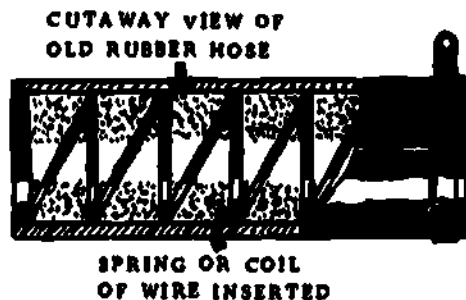

Fig 3-6. Cutaway view of hose.
c. Collapsed hose. When the lower hose becomes oil soaked and is subjected to engine heat, it gets soft and often collapses from the suction of the water pump. Overheating at high speeds results. Prevent the collapse by inserting a piece of heavy wire coiled to the same diameter size as the inside of the hose. Figure 3-6 shows a cutaway view of a hose with coiled wire inserted in it.